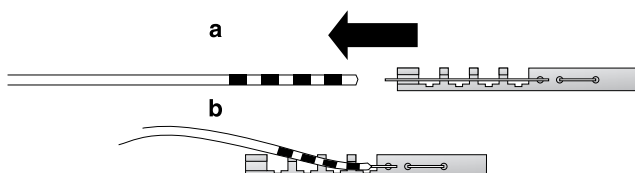

Figure 21. Attach short stylet to lead.
- a. Attach the enclosed short stylet to the proximal end of the lead (Figure 21).